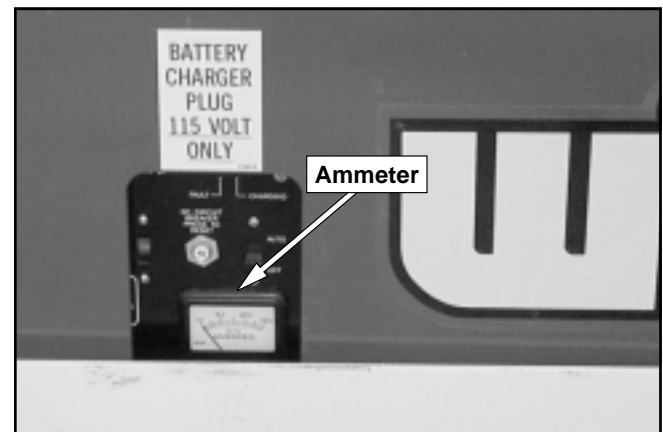

Figure 6.2—Battery Charger
3. Plug the charger into a properly grounded outlet using a 3 conductor, 14 gauge or larger extension cord. After a short delay the charger will turn on. The ammeter (refer to Figure 6.2) will indicate near 20 amps initially then taper off to 5 to 10 amps as the batteries charge.